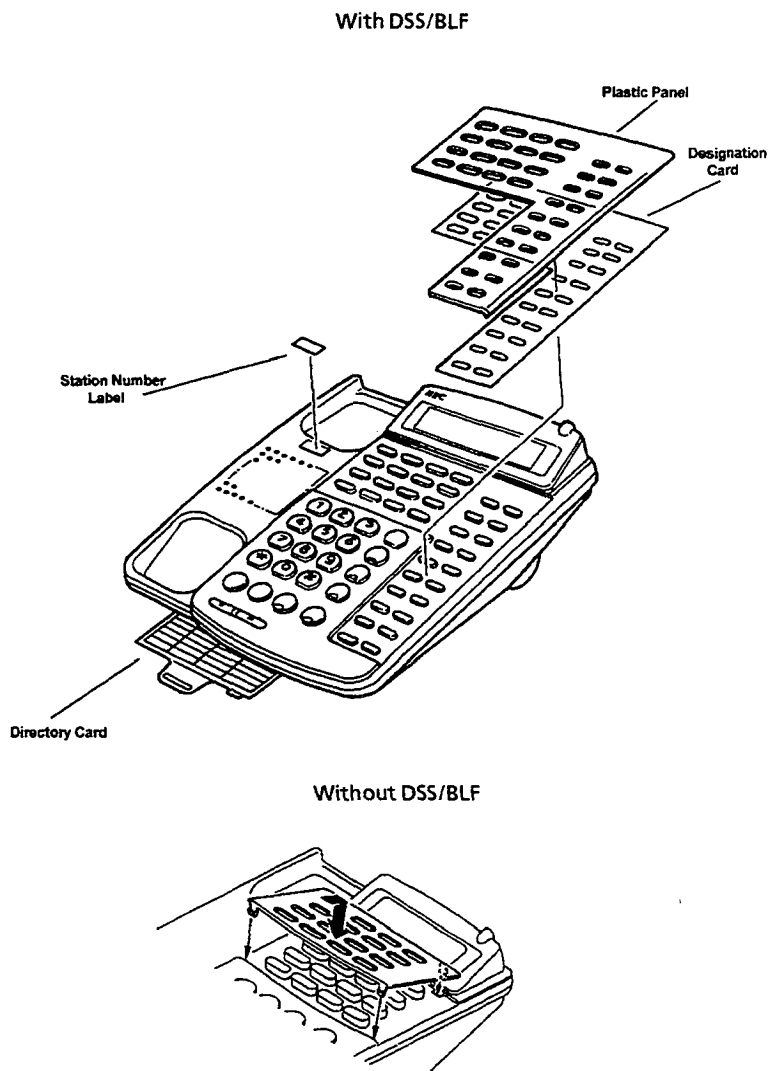

Figure 4-6 Installing the Designation Card, Plastic Panel, and Labels on a Multiline Terminal
1. Place the designation card over the keys on the Multiline Terminal. Refer to Figure 4-6 - Installing the Designation Card, Plastic Panel, and Labels on a Multiline Terminal.